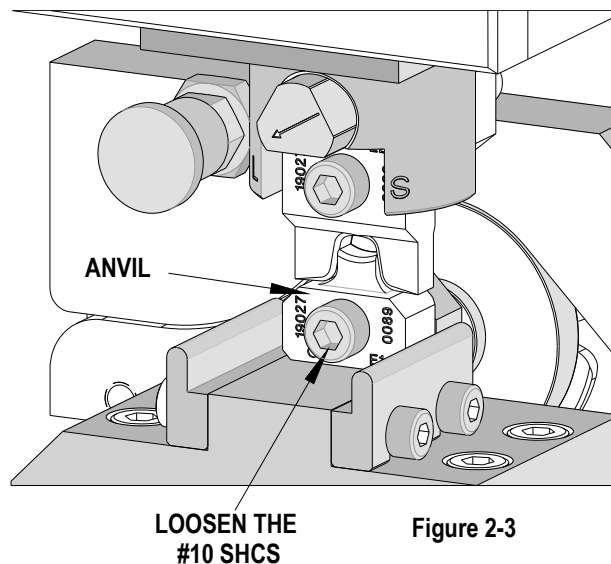

Figure 2-3
2. Using a 5/32” hex wrench, slightly loosen the anvil mounting screw. See Figure 2-3.